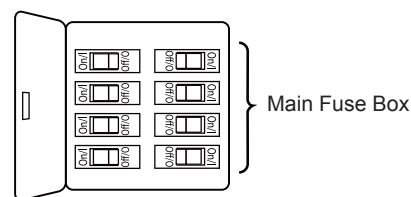
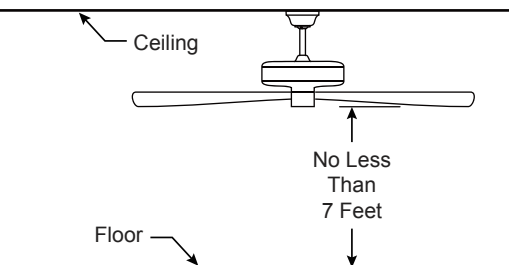
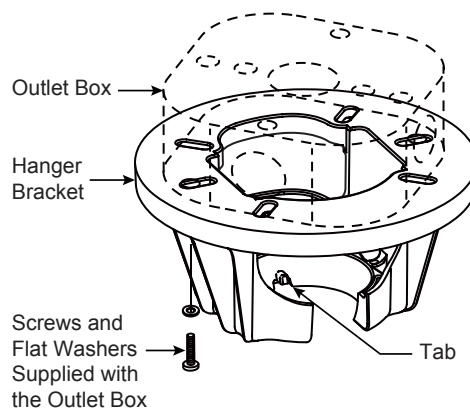

Figure 1
Figure 2
Figure 3
Your new ceiling fan will require a grounded electrical supply line of 120 volts AC, 60 HZ, 15 Amp Circuit. Electrical code requires use of a fan-rated outlet box to support the extra weight and motion associated with a ceiling fan. A fan-rated outlet box will be labeled as such and typically supports up to a 70lb ceiling fan. Fan-Rated Outlet Boxes vary in ratings and design. Ensure the ratings of your ceiling fan outlet box meet the requirements for the ceiling fan being installed. Figure 1, Figure 2 and Figure 3 depicts different structural configurations that may be used for mounting the outlet box.
Low profile outlet box (Figure 1)
Deep outlet box (Figure 2)
Deep outlet box with brace (Figure 3)
☐ **2.** Prior to assembly, set aside and save the hardware bags packaged with your fan. Remove the hanger ball by loosening the set screw in the hanger ball until the ball falls freely down the downrod. Remove the pin from the downrod, then remove the hanger ball. Retain the pin and hanger ball for reinstallation in Step 7. (Figure 2)
☐ **3.** Remove the hairpin clip and clevis pin from the bottom of downrod. Retain the pin and clip for reinstallation in Step 5. (Figure 3)
To avoid possible fire or shock, be sure electricity is turned off at the main fuse box before hanging. (Figure 1)
The fan must be hung with at least 7' of clearance from floor to blades. (Figure 2)
- ☐ 1. Securely attach the hanger bracket to the outlet box using the outlet box screws and washers supplied with the outlet box. (Figure 3)
NOTE: Outlet box screws pass through slotted holes of the hanger bracket. (Figure 3)
- ☐ 3. Carefully lift the fan and seat the downrod/hanger ball assembly onto the hanger bracket that was just attached to the outlet box. (Figure 4) Be sure the groove in the ball is lined up with tab on the hanger bracket. (Figure 3)
- ☐ 1. To set the code on receiver unit, slide dip switches to the same positions as set on the remote control. (Figure 1)
To avoid possible electrical shock, be sure electricity is turned off at the main fuse box before wiring. (Figure 2)
- ☐ 2. Slide the receiver into the hanger bracket before wiring as shown in figure 3.
- ☐ 1. Assemble canopy by rotating key slot in canopy over shoulder screw in hanger bracket, taking care not to pinch the wires. Fully assemble and tighten second shoulder screw that was previously removed, then tighten another shoulder screw. (Figure 1)
- ☐ 2. Securely attach and tighten the canopy screw cover over the shoulder screws in the hanger bracket utilizing the key slot twist-lock feature. (Figure 2)
- ☐ 1. Position blade along the motor, aligning blade holes with holes in the top of the motor assembly flywheel. Make sure the blade is fully seated against the flywheel and install serrated head screws with stainless flat washers from the hardware bag, but don't fully tighten at this time. (Figure 1)
- ☐ 2. Install and securely tighten all screws with stainless flat washers at the underside of the blades, then securely tighten all previously installed screws on top of motor. (Figure 2)
- ☐ 3. Attach the plastic cap assembly to the motor assembly, which is held in place by a magnet. (Figure 3)
- ☐ 1. **IMPORTANT:** Using a full range dimmer switch (not included) to control fan speed will damage the fan. To reduce the risk of fire or electrical shock, do not use a full range dimmer switch to control the fan speed. (Figure 1)
- ☐ 2. Restore electrical power to the outlet box by turning the electricity on at the main fuse box. (Figure 2)
- ☐ 3. To make fan operational, remove battery insulator pull tab before use transmitter. Then, follow the remote code setting process. If not used for long periods of time, remove battery to prevent damage to transmitter. Store the remote away from excessive heat or humidity. (Figure 3)